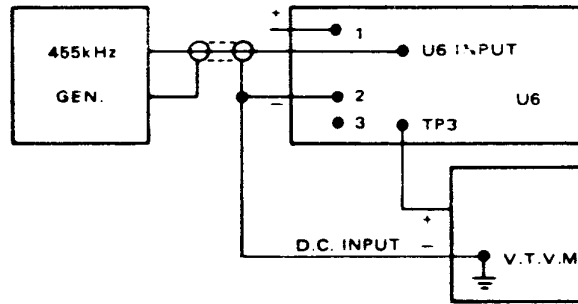

Figure 5
1. Set up the equipment as shown in Figure 5.
5. To check the discriminator, vary the input frequency by 5 kHz (N) or 15 kHz (NW) and check that the change of output is  $\geq 1\text{V}$  (N) or  $\geq 2\text{V}$  (NW).